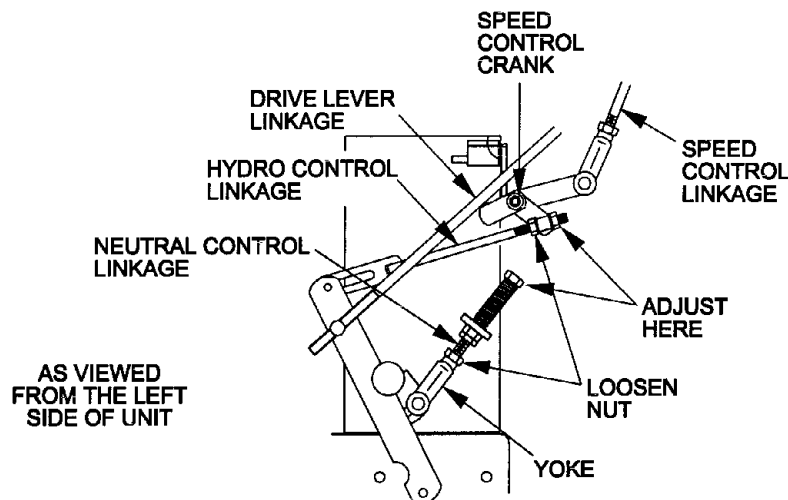
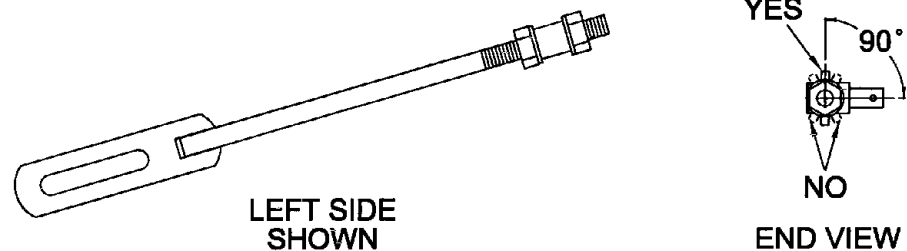

FIG. 14
FIG. 15
2. Move the speed control lever (located on the console) to the full forward position and check the orientation of the tabs on the ends of the speed control crank (Fig. 14). These tabs should be pointing straight down at the 6 o'clock position or slightly forward. Adjust the threaded yoke at the bottom of the speed control linkage (Fig. 14) until the tabs are positioned correctly.
4. Loosen the nut against the neutral control linkage yoke as shown in Figure 14.
2. Loosen the front nut on **left** hydro control linkage as shown in Figure 14. Turn the rear control linkage adjusting nut counter-clockwise until wheel rotates forward. Turn the rear nut of left control link clockwise 1/6 of a turn at a time, stopping to move the speed control forward and back to neutral, until left wheel stops rotating forward. Turn the rear nut an additional 1/2 turn and tighten the front nut making sure not to put a bind on the linkage. Make sure flat part of linkage is perpendicular to pin part of swivel. See Fig. 15.